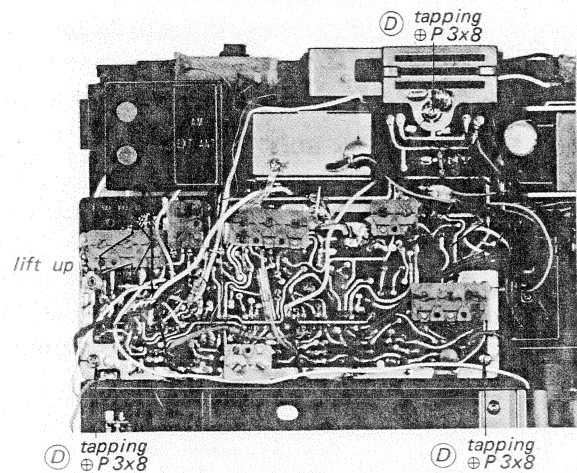

Fig. 2-5. Cp circuit board removal
- 3. Remove the three screws marked ① in Fig. 2-5.
- 5. Lift up the cp circuit board in the direction shown by the arrow in Fig. 2-5.